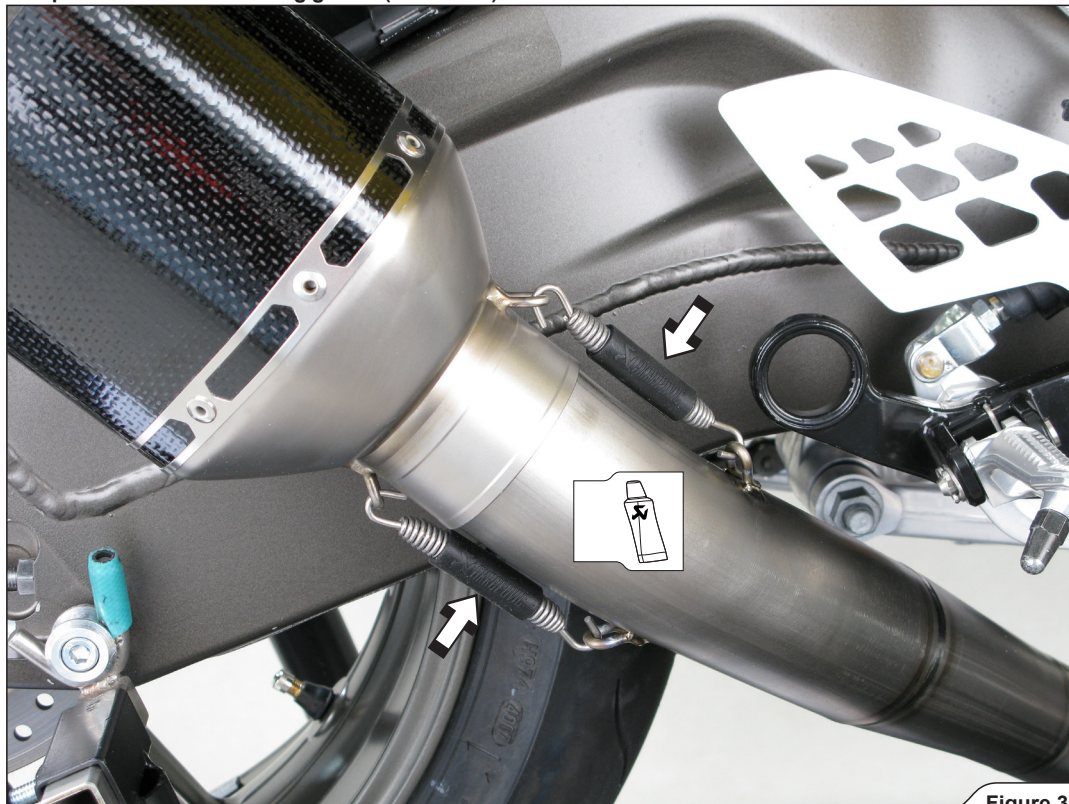

Figure 32
15. Position the muffler correctly and slide it onto the outlet side of the link pipe. Attach the springs (Figure 32).